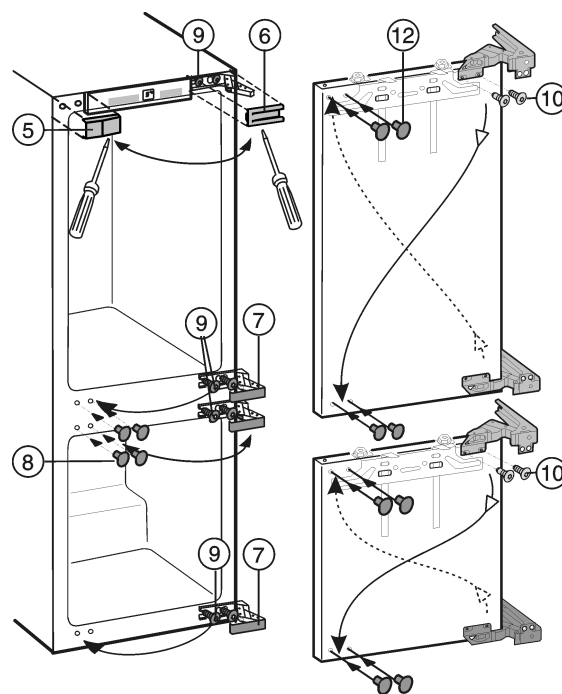

Fig. 8
- Lift off covers Fig. 8 (5,6,7,8) using a slot screwdriver.
- Just loosen top and bottom screws Fig. 8 (9) on the body of the appliance.
- Swap screws Fig. 8 (9) to the opposite side and screw them in a little.
- Undo screws Fig. 8 (10) and change over the hinges diagonally.
The screws Fig. 8 (10) are self-tapping: use a cordless screwdriver.
- Close off the now unused fastening holes with the plugs Fig. 8 (12) supplied.
- Hang the doors on the premounted screws Fig. 8 (9) and tighten the screws **securely by applying a torque of 3 lb-ft (4 Nm)**.